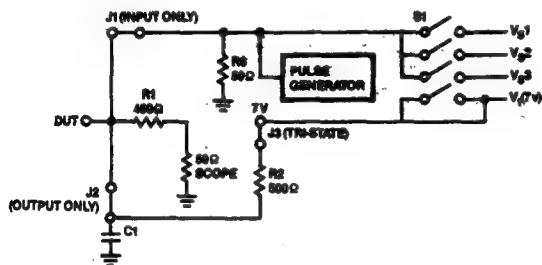

Figure 5. Signetics PCB Fixture Schematic
There are two types of signal lines on this fixture: input and output; both of which are 50 $\Omega$  transmission lines. The input line is on the top side of the board and is always terminated in 50 $\Omega$ . It is connected to the DUT via a .3" jumper, Jumper #1 for input. When this jumper is installed, the DUT pin is available only as an input. To allow this line to be used as an output, a .1" jumper, Jumper #1 for output, is used instead of the .3" jumper. This connects the DUT pin to the AC load when the DUT pin is an output. See Figure 5.
hard to detect errors into the waveform. The second reason being that most suppliers of these technologies provide data based upon the Low-impedance approach and most large users of these products do so as well. This also allows the fixture to be used for ECL testing since that product uses a totally 50Ω environment. Figure 5 illustrates how this test fixture implements the 50pF/500Ω load schematically.
As illustrated in Figure 5, the load is shared with the 50Ω input of the measurement system; a 50Ω sampling oscilloscope. The 450Ω resistor: R1, is soldered to the socket pin of the device and is in series with the 50Ω input of the scope. Figure 6 illustrates this on the board layout of one input/output pin. This allows virtually a probe tip on the device pin. The load capacitor: C1, is a 33pF ceramic chip capacitor. This is added to the measured value of 17pF of board capacitance, achieving the 50pF value specified for the load. The distance from the pin to the capacitor is .5 inches and is adequate for the testing of these product families.
For testing 3-State parameters, the 500Ω resistor: R2, is connected to its pull-up supply. V1 via a .3" jumper: Jumper #2. The V1 supply is bussed to each pin and may or may not be connected with that jumper. See Figures 5 and 6.
When the input is not used for a signal input, the line may be switched to one of three voltage sources:  $V_s$  1 through  $V_s$  3, by the use of a DIP switch on each pin. It may also be left open and then the 50 $\Omega$  pull-down resistor: R1, pulls the line to ground and can be used as a hard low level. See Figure 5. These voltage levels are brought in from external supplies through banana connectors like  $V_{CC}$ . This scheme eliminates excessive cabling to each input to provide the static input levels and thereby reduces parasitic inductances and cross-talk. Each of the 3 busses and the  $V_i$  bus all have places for by-pass capacitors in the event of noise on the static levels. Figure 8 illustrates the DIP switch and SMB connectors and how they control the input stimulus and output measurement.
dedicated fixture. However, on a dedicated fixture, the pins are individually constructed to be either an input or an output, and in so doing, the fixture is usable for 1-to-4 devices. The Signetics fixture, once dedicated to a particular  $V_{CC}$  and GND configuration, is built up to have both input and output components on all signal pins. The selection of which pin is an output or an input is made by inserting the appropriate jumper. See Figures 5 and 6. The same applies in doing tri-state testing. The tradeoff here is that it would probably take less time to setup the dedicated fixture than the Signetics fixture. To help compensate for that tradeoff, we have the three  $V_s$  supplies that may be switched into any pin to provide input static levels and eliminate the need to bus input High or Low levels by external cabling. For the user that means the only connections being made to the fixture are:
- the  $V_i$  supply (banana jack): this is the tri-state pull-up voltage and is permanently connected to the bus to each pin. It is selectable by Jumper #2, see Figures 5 and 6. For FAST and ALS products this is 7V. For ACL products this is  $V_{CC} \times 2$  and it is not used for ECL applications.